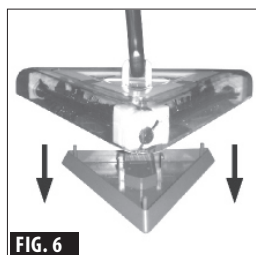

FIG. 6
- Then, place the "Dirty Tray" back on the floor or other flat surface. Lift up and align the "Base" of the sweeper over the "Dirty Tray". Properly aligned, the weeper logo on the front of the "Base" of the unit will face in the same direction as the Peak/Front of the dirt tray. Set the "Base" down to correct (see FIG. 6).